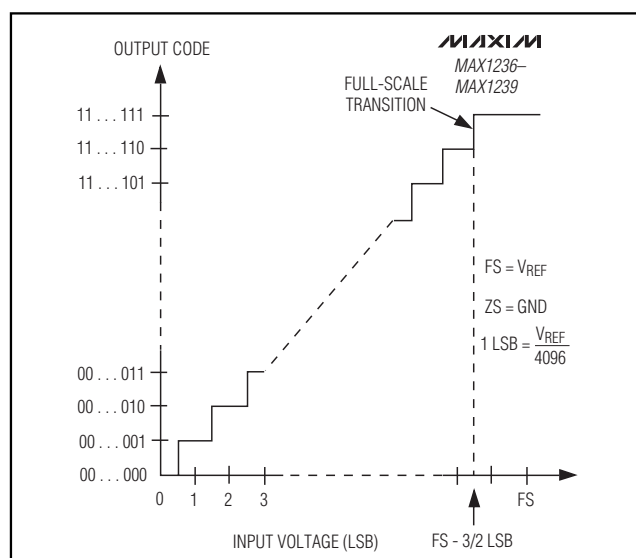

Figure 12. Unipolar Transfer Function
Output data coding for the MAX1236-MAX1239 is binary in unipolar mode and two's complement in bipolar mode with 1 LSB = (V_{REF} / 2^N) where "N" is the number of bits (12). Code transitions occur halfway between successive-integer LSB values. Figures 12 and 13 show the input/output (I/O) transfer functions for unipolar and bipolar operations, respectively.